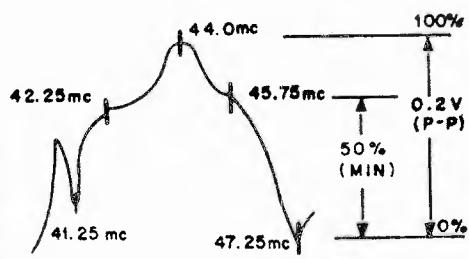

FIG. 8
18. Re-adjust generator output to produce a 0.2 volt P-P indication on the 'scope and observe the response. The curve obtained should conform to Fig. 8.